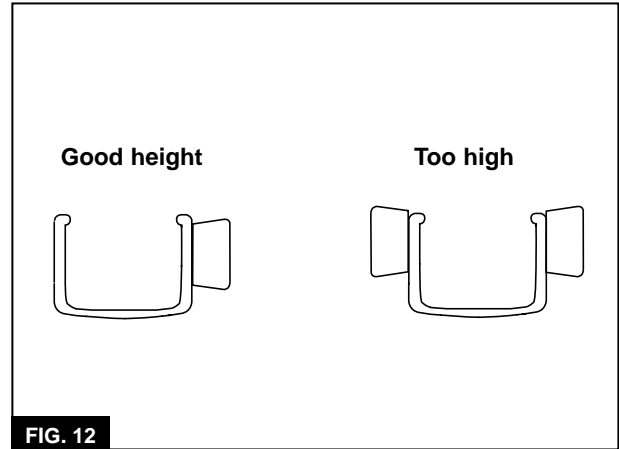

FIG. 12
Height adjustment locates the brake pad in the rim brake surface. When height is properly adjusted, the pad will press as near to the top of the rim as possible without interfering with the tire (**Figure 12**). Pad alignment procedure is described below.
1. Look at each pad from the side, and note where the pad engages the brake surface of the rim. (**Figure 12**).